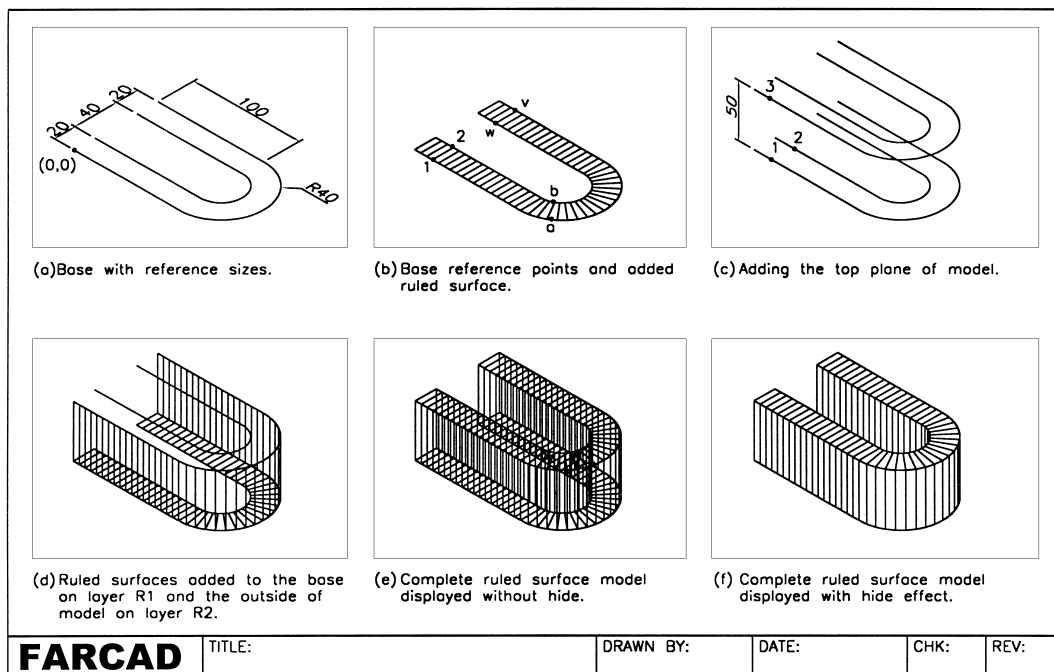

Figure 16.2 Ruled surface example 2 – 3D wire-frame model.
- 1 Open your MV3DSTD template file and refer to Fig. 16.2. Note that in Fig. 16.2 I have only displayed the 3D viewpoint.